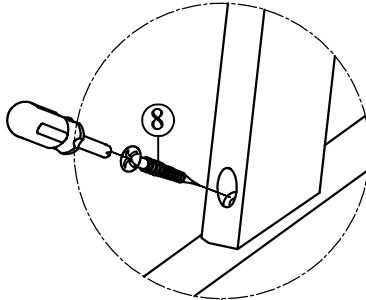

FIG.4
STEP 4: Attach the Side Stretcher (E) & (F) to the Front Leg (C) & (D) and to the Back Rest (A) using provided hardware as shown on FIG.4.